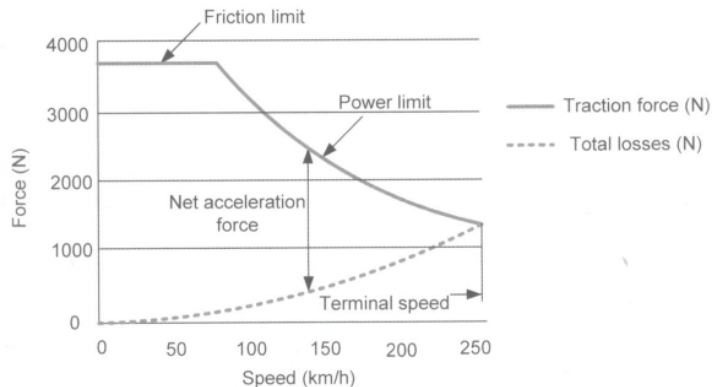

Figura: 1.11-Força disponível para aceleração
2. The dashed line indicates the theoretical maximum torque available at the wheels taking into account traction grip and peak engine power. This is a similar shape to the traction force curve shown in *Figure 1.11*.